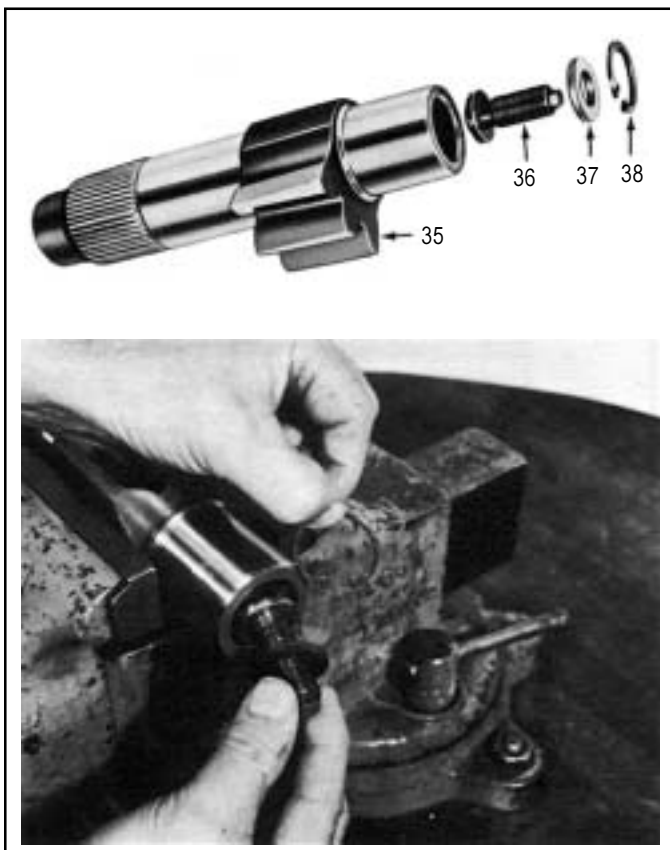

FIGURE 29
20. Remove the snap ring(38), the adjusting screw spacer(37) and the adjusting screw(36) from output shaft. (See Figure 29)